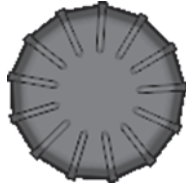

Figure 2-13 Adjustment knob
The adjustment knob increases or decreases the value of the highlighted adjustable parameter (Figure 2-13 on page 38). The adjustment knob also enables you to scroll through available options in the software user interface (UI), such as within a pop-up window or wave adjust parameter.